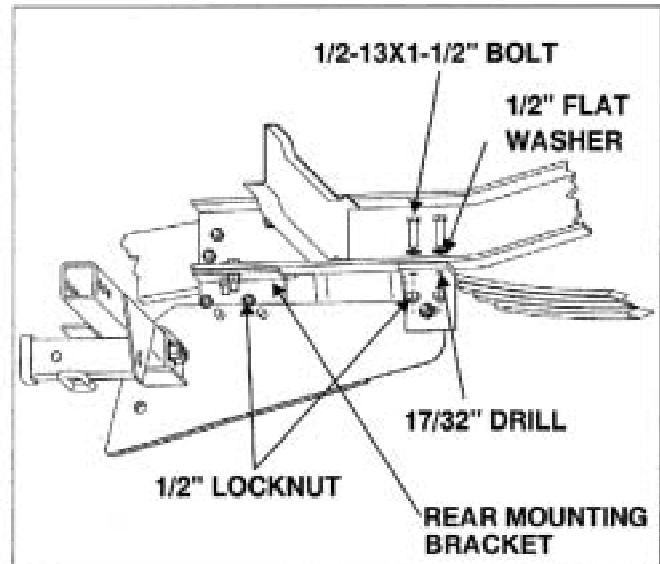

Figure 6
2. Install two 1/2" x 1-1/2" grade 5 bolts and 1/2" locknuts (per side) to hold subframe to rear brackets. See Figure 6.
4. Using bracket as a template, center punch and drill two 17/32" holes in bottom flange of frame (2 per side). See Figure 6.